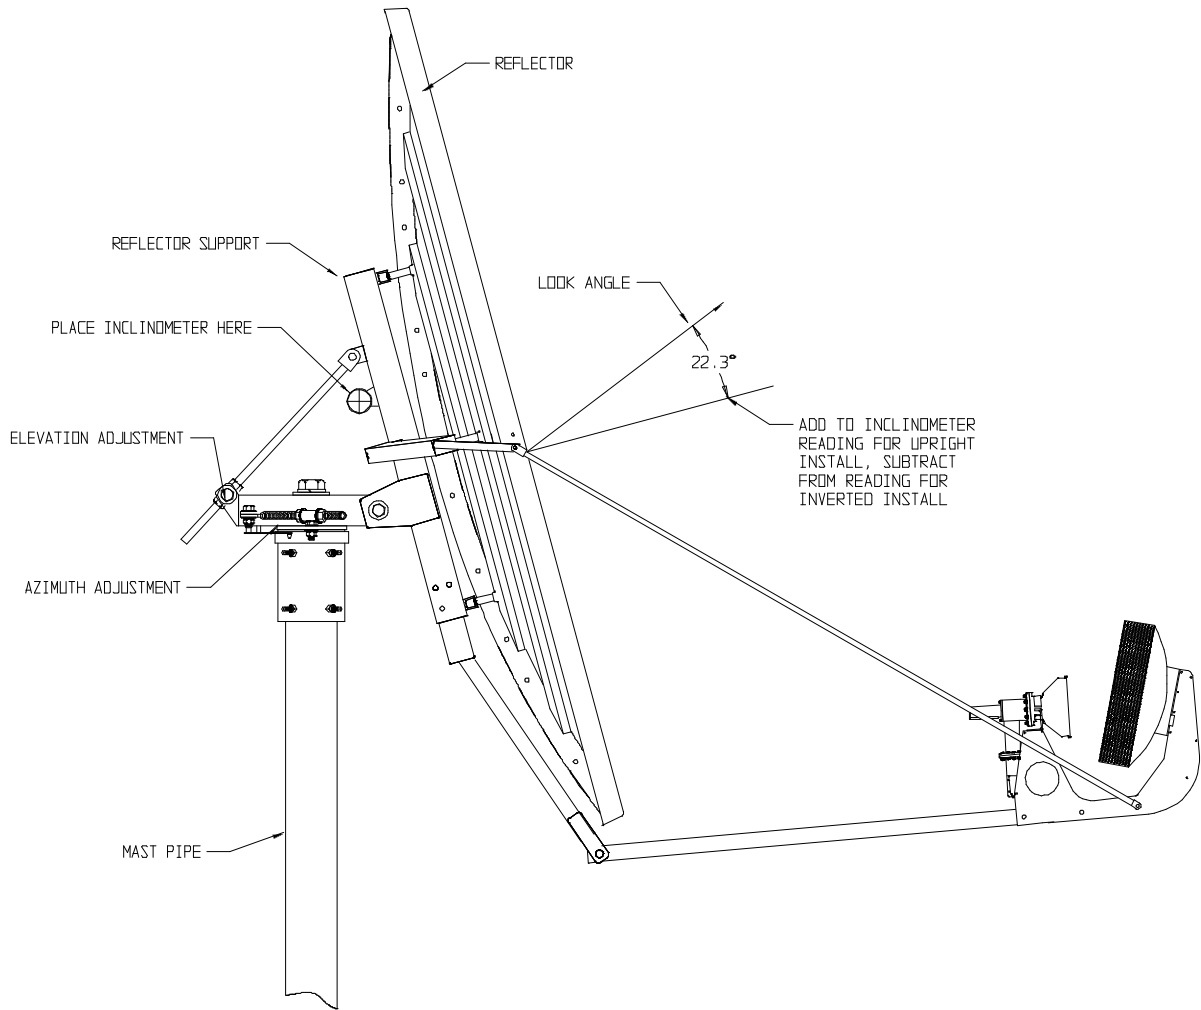

Figure 4.1-1
- 1) Place an inclinometer on the reflector support as shown in figure 4.1-1. Remember to add 22.3° to the reading to allow for the reflector's offset angle.